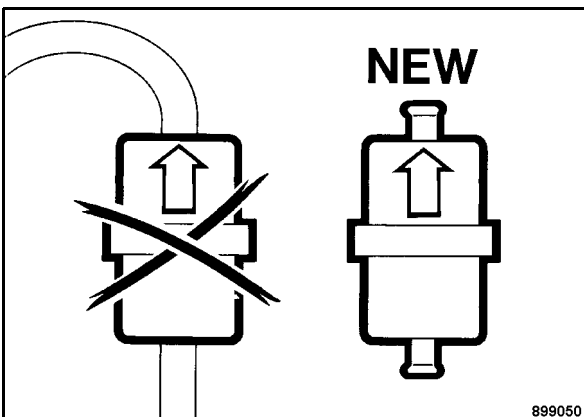

Fig. 83
- Install the new fuel filter and observe the flow direction (Fig. 83).